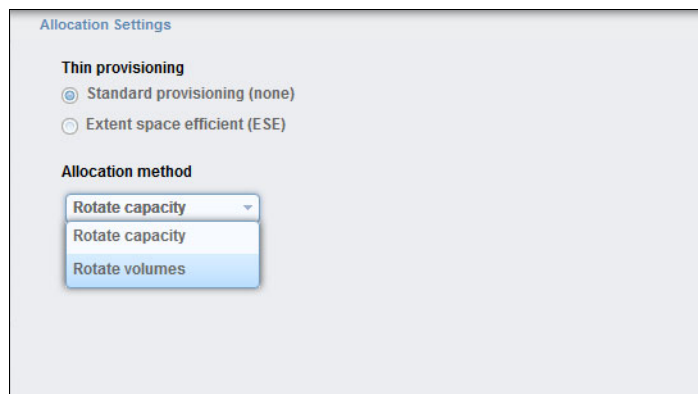

Figure 11-81 Create CKD Volumes: Advanced: Allocation Settings
3. Click **Allocation Settings** to open the Allocation Settings window that is shown in Figure 11-81.